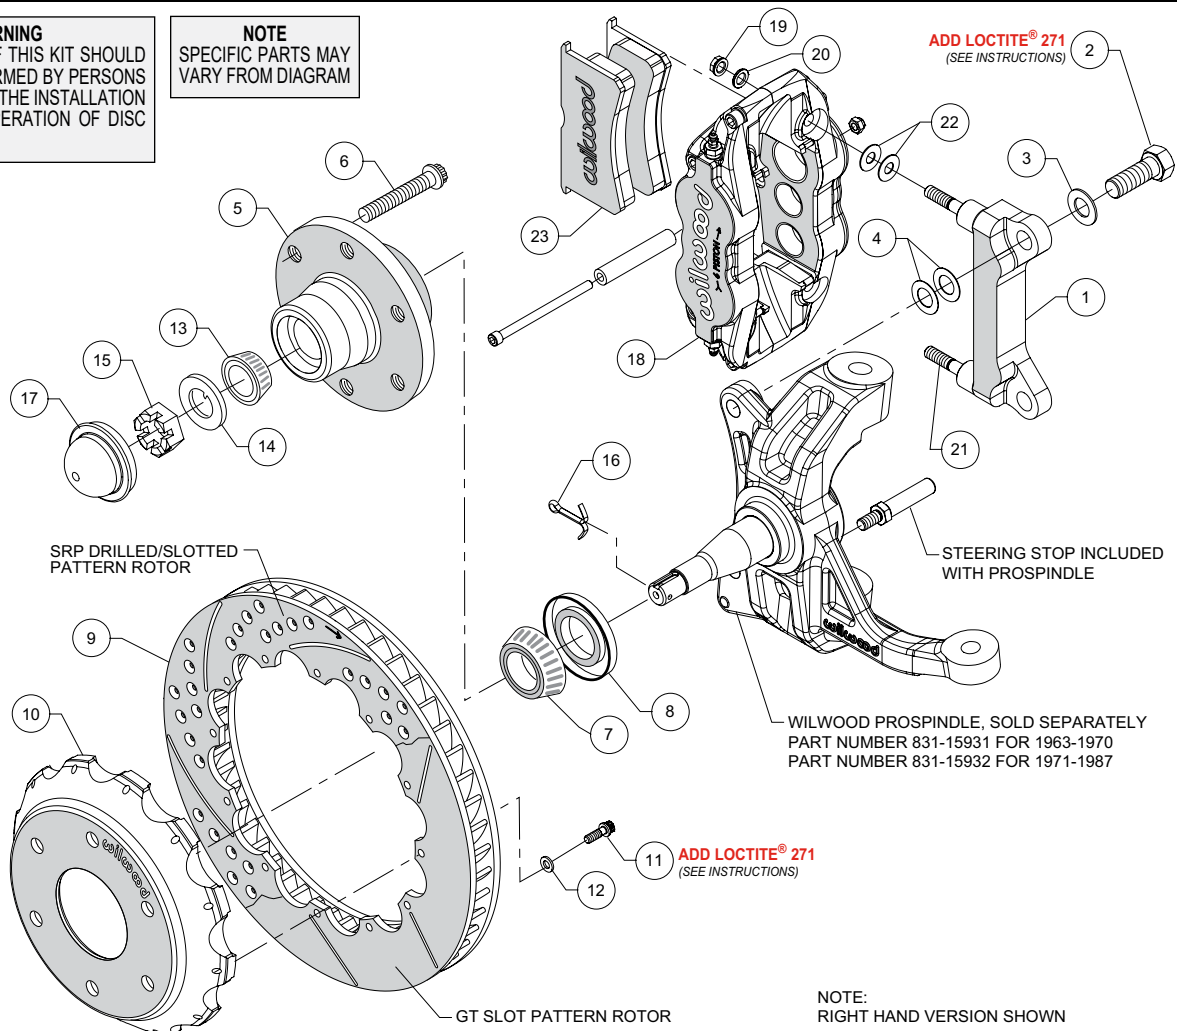
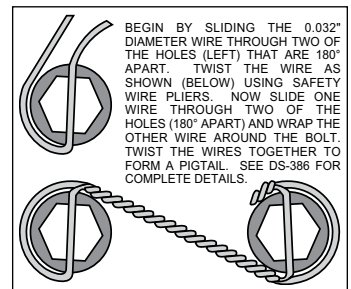

Figure 1. Typical Installation Configuration
Figure 3. Safety Wire Diagram
Assembly Instructions (numbers in parenthesis refer to the parts list and Figure 1 on the preceding pages):
- Install the steering stop bolt (included with the ProSpindle) into the spindle as shown in Figure 1 and Photo 1. Torque to 25 ft-lbs.
- The caliper mount bracket (1) should initially be installed with clean, dry threads on the mounting bolts. Orient the bracket, as shown in Figure 1 and Photo 2, and install using bolts (2) and washers (3). Initially place two .024" thick shim (4) on each bolt between the bracket and spindle, Figure 1. Temporarily tighten the mounting bolts. **NOTE: The bracket must fit squarely against the mount bosses on the spindle.** Inspect for interference from casting irregularities, machining ridges, burrs, etc. Later, after the caliper alignment has been checked, the mount bolts will be secured using red *Loctite*® 271.
- Install wheel studs (6) into the hub (5), Photo 3. Torque to 77 ft-lb.
- Pack the large inner bearing cone (7) with high temperature disc brake bearing grease (available from your local auto parts store) and install into the backside of the hub (5), Photo 4.
- Install the grease seal (8) by pressing into the backside of the hub (5), flush with the end of the hub, Photo 5.
- Pack the small outer bearing cone (13) with high temperature disc brake bearing grease and install into hub (5). Slide the hub assembly onto the spindle. Secure using spindle washer (14) and spindle nut (15), Photo 6. Adjust bearings per OEM specifications. Install a new cotter pin (16).
- Press the dust cap (17) into the hub (5). **NOTE: Do not hammer center of cap. Install using outer flange only.**
- Orient the rotor (9) and the hat (10) as shown in Figure 1 and Photo 7. Attach rotor to hat using bolts (11) and washers (12). Apply red *Loctite*® 271 to the bolt threads and torque to 155 **in-lb** using a criss-cross pattern. For an added measure of security, the bolts may be safety wired using standard 0.032 inch diameter stainless steel safety wire as shown in Figure 3. Refer to Wilwood's data sheet DS-386 (available at www.wilwood.com/Pdf/DataSheets/ds386.pdf) for complete safety wire installation instructions.
- Slide the hat/rotor assembly (10 and 9) onto the hub (5), Photo 8. **NOTE: The hat must fit flush against the hub face or excessive rotor run out may result.** Install three lug nuts (finger tight) to keep the hat/rotor assembly in place while continuing with the installation, Photo 8.
- **NOTE: This kit contains distinct right and left hand calipers that must be mounted in a specific direction, as described below.** Initially place two .035" thick shims (22) on each stud (21) between the caliper and the bracket, as shown in Figure 1 and Photo 9. Mount the caliper (18) onto the bracket (1) using lock
nuts (19) and washers (20), Figure 1. Temporarily tighten the lock nuts. Ensure that the caliper is mounted so that the largest pistons are at the rotor exit end of the caliper, in relation to the direction of rotor rotation. View the rotor through the top opening of the caliper. The rotor should be centered in the caliper, Photo 10. If not, adjust by adding or subtracting shims (4) between the bracket and the spindle. Always use the same amount of shims on each of the two mounting bolts. Once the caliper alignment is correct, remove the bracket mounting bolts one at a time, apply red *Loctite*® 271 to the threads, and torque to 140 ft-lb.